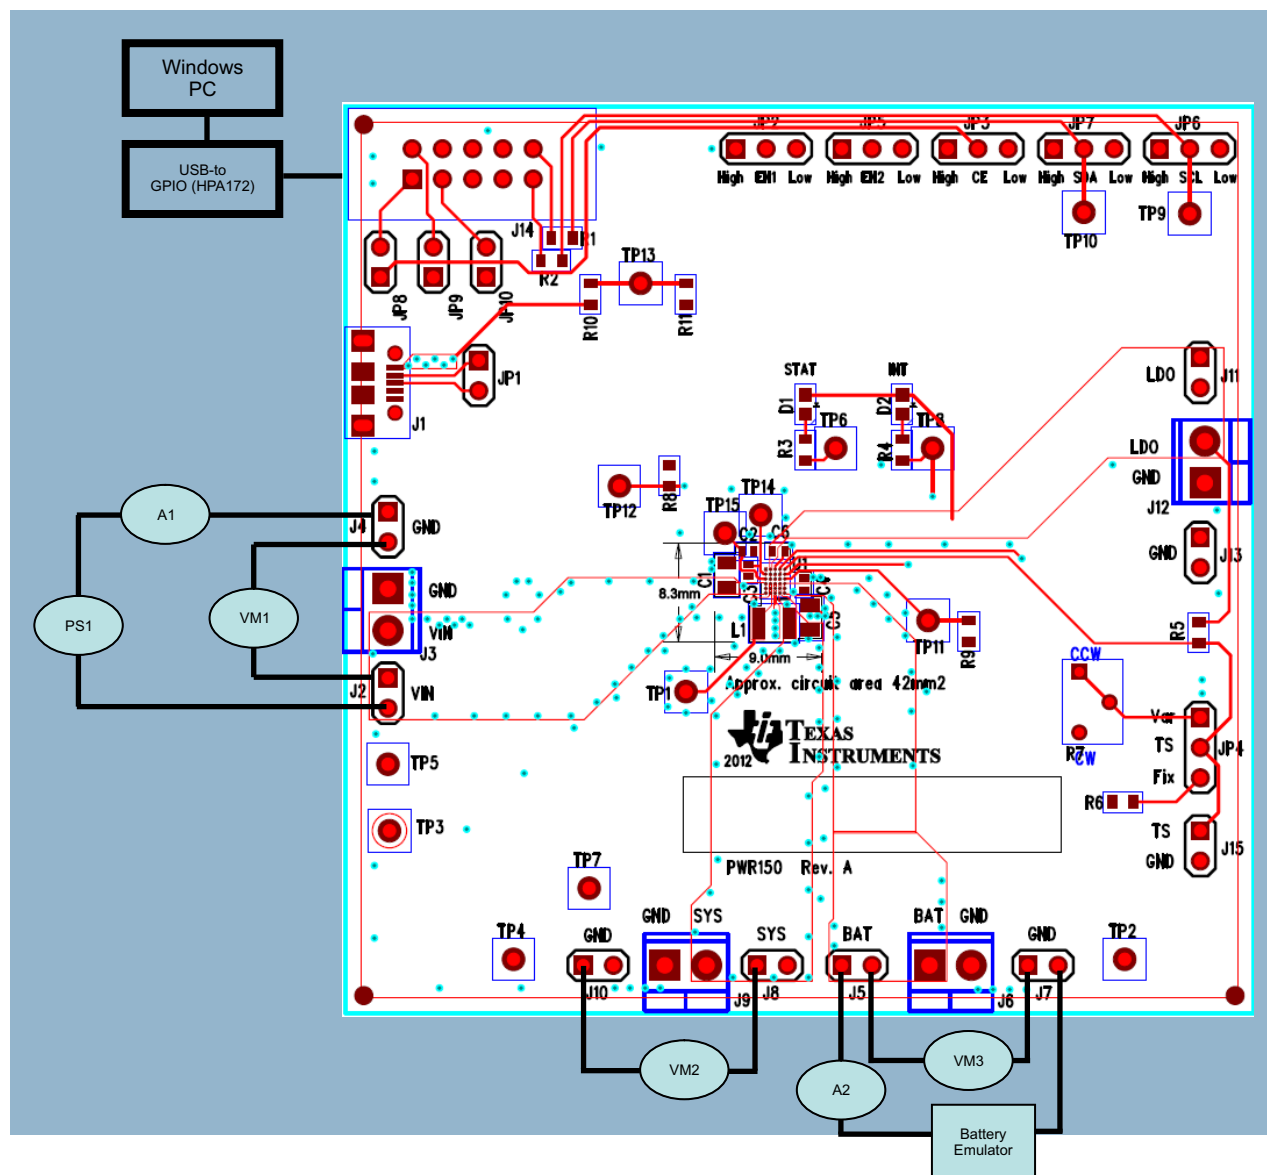

Figure 2. Original Test Setup
- After the preceding steps have been performed, the test setup for PWR150 is configured as is shown in Figure 2.